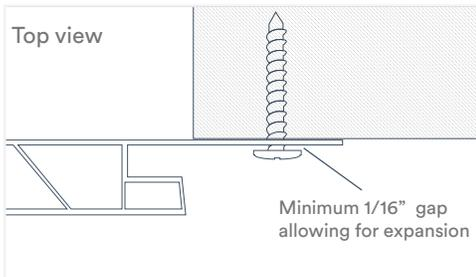

Fig. 4
- Allow a minimum of 1/16" (about the thickness of a dime) between the back of the screw head and the screw flange (Fig. 4 next page)